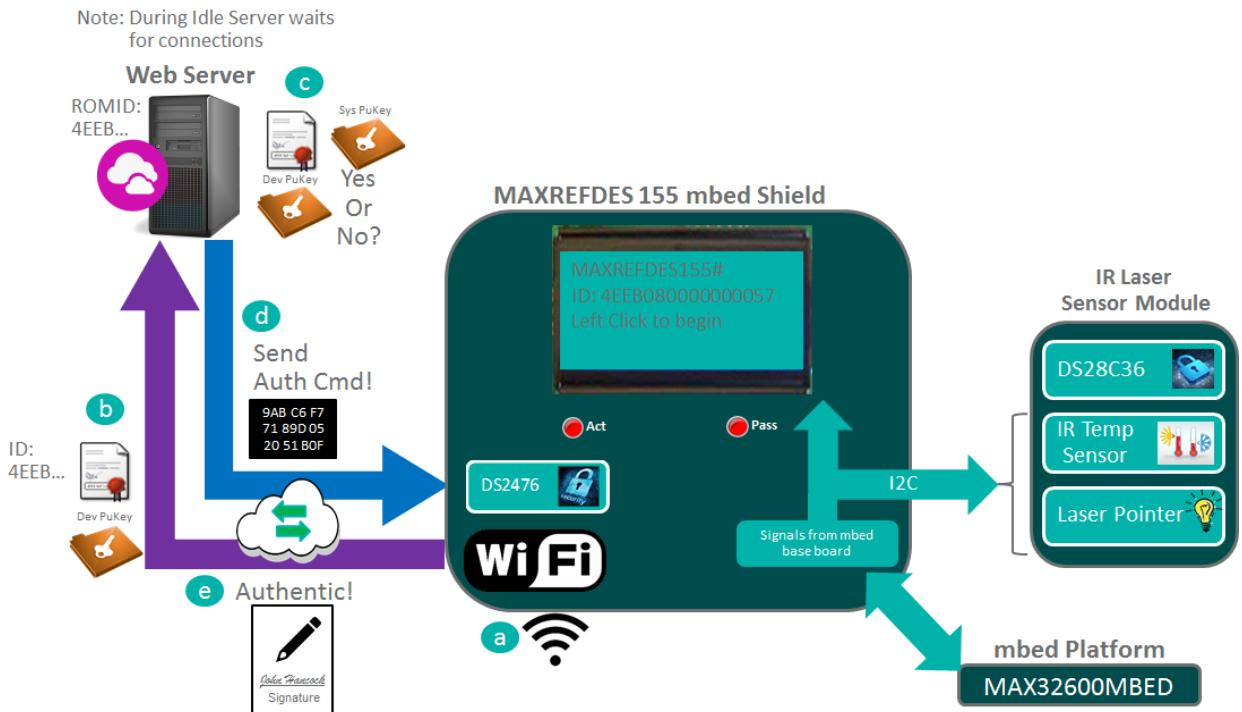

Figure 12. Establishing the setup connection to the web server.
| Figure 12. Establishing the setup connection to the web server. | 11 |
11. To summarize, if everything is correct the following (as illustrated in **Figure 12**) shows what occurred to establish a secure connection to the Web Server: